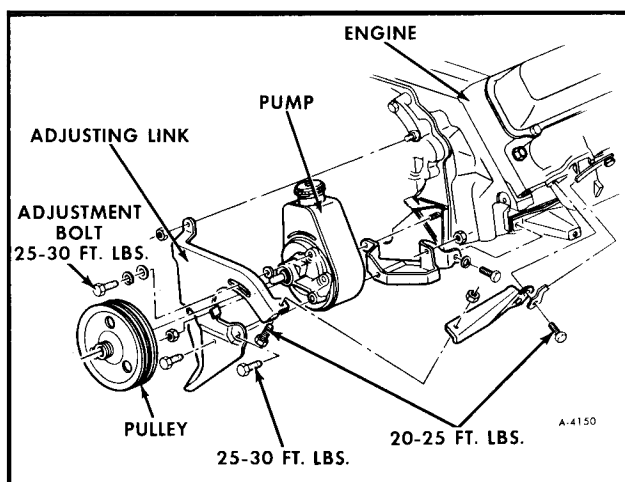

Figure 7—Pump Installation
REMOVAL OF PUMP (FIGURE 7)
3. Remove power steering pump mounting bolts and nuts, and upper left venturi bracket. (See figure 7).
INSTALLATION OF PUMP (FIGURE 7)